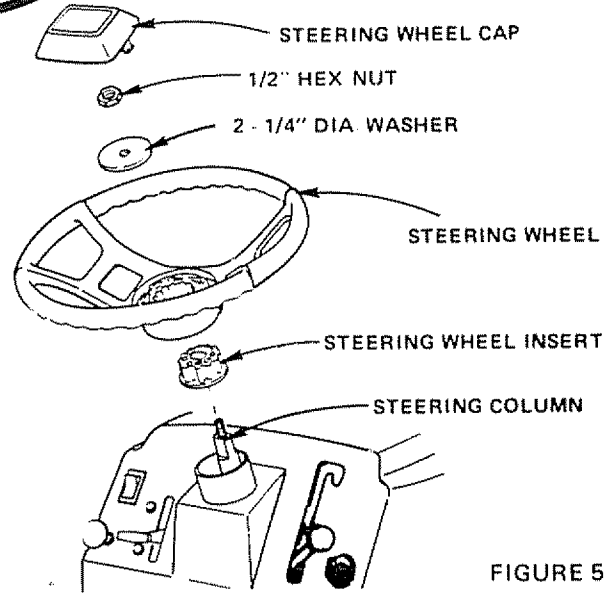

FIGURE 5
- a. Remove 1/2" Hex Nut and 2 - 1/4" Dia. Washer from Steering Column (Fig. 5).
- c. Secure Steering Wheel to Steering Column using 2 - 1/4" Dia. Washer and Hex Nut (Fig. 5).